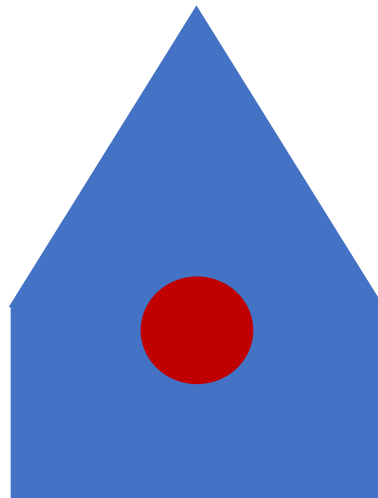

Figure 12: Ideal laser position on probe.
- Use the optical camera to make final adjustments for laser position (Figure 12).